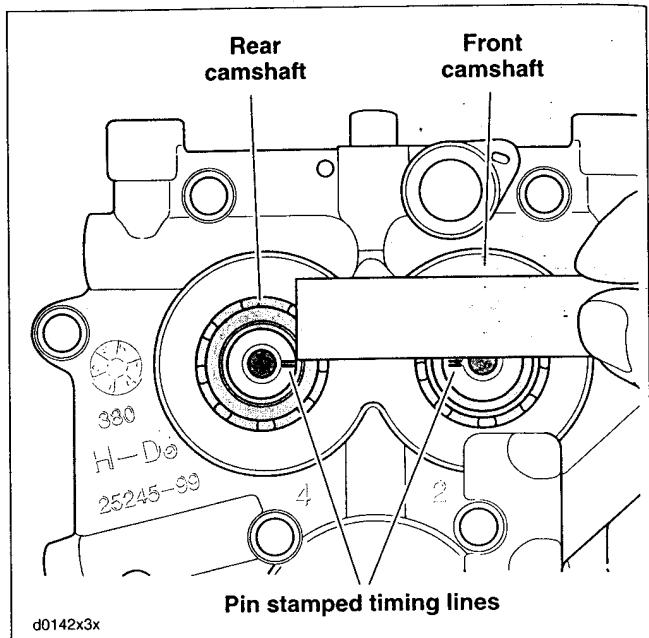

Figure 3-139. Verify Alignment of Punch Marks
17. See Figure 3-139. Since the pin stamped timing lines on the secondary sprockets cannot be observed once the camshafts are pressed into the bearings, note that the outboard ends of the shafts have a second set of timing lines. Using a straightedge, verify that these timing lines are in alignment. If they are not, then the camshafts must be removed and reinstalled (with a new bearing set).